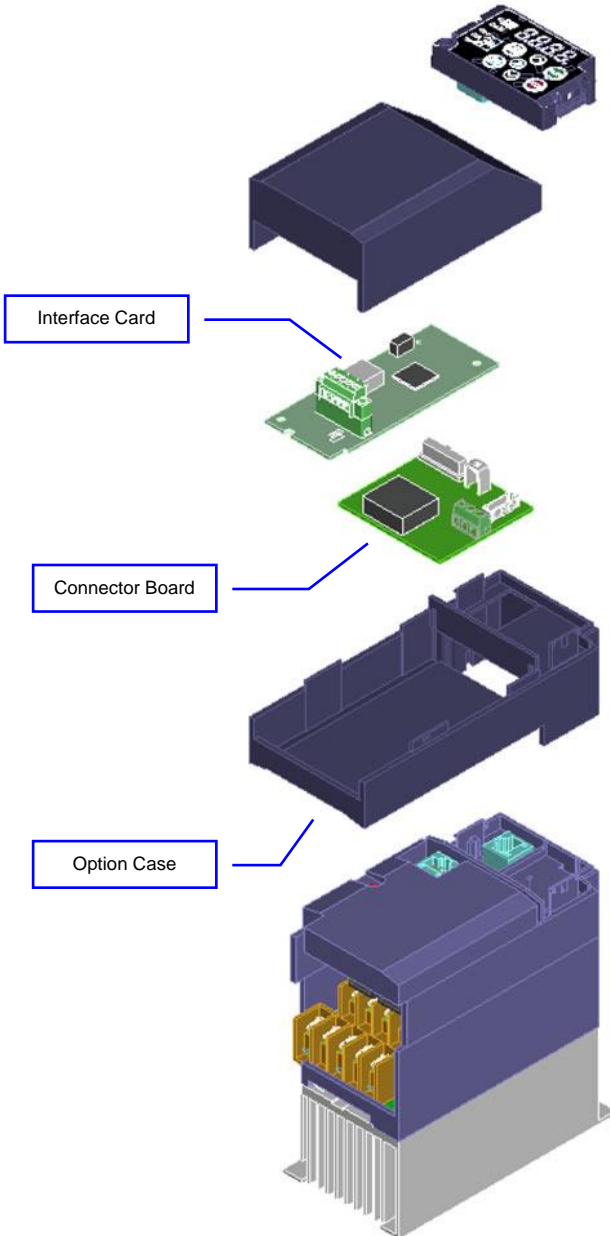
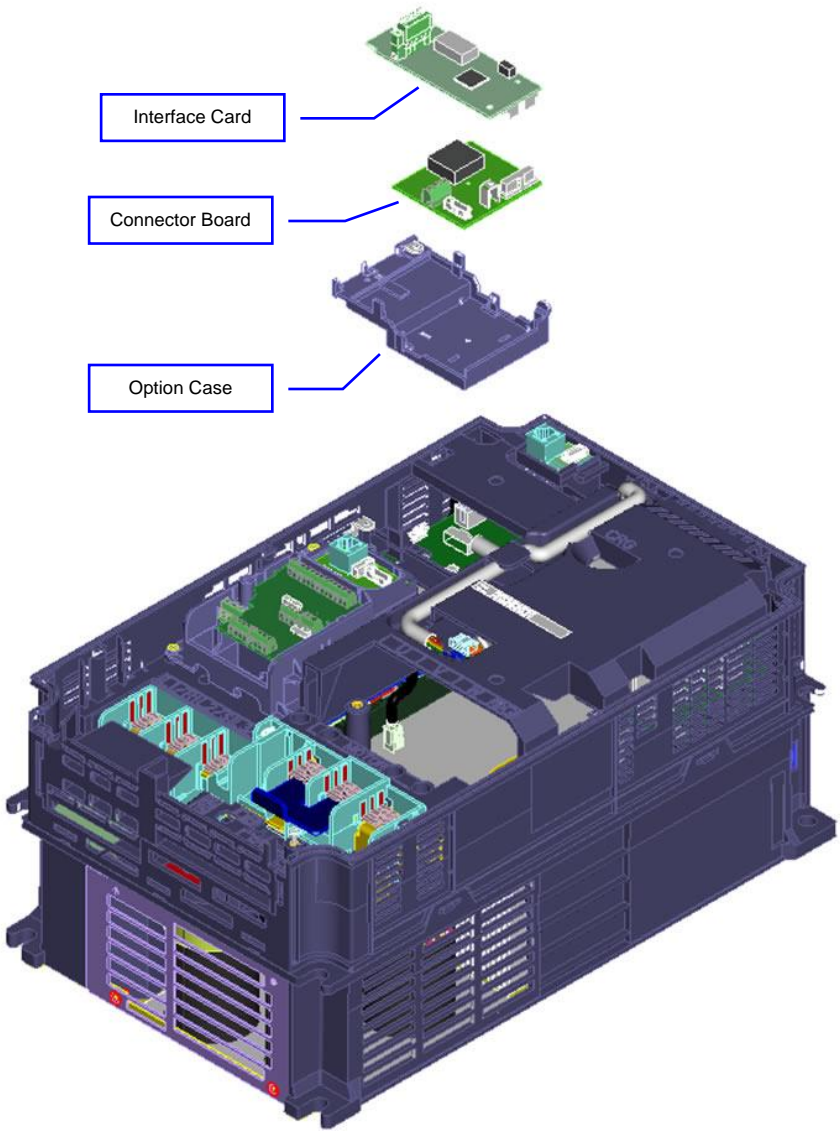
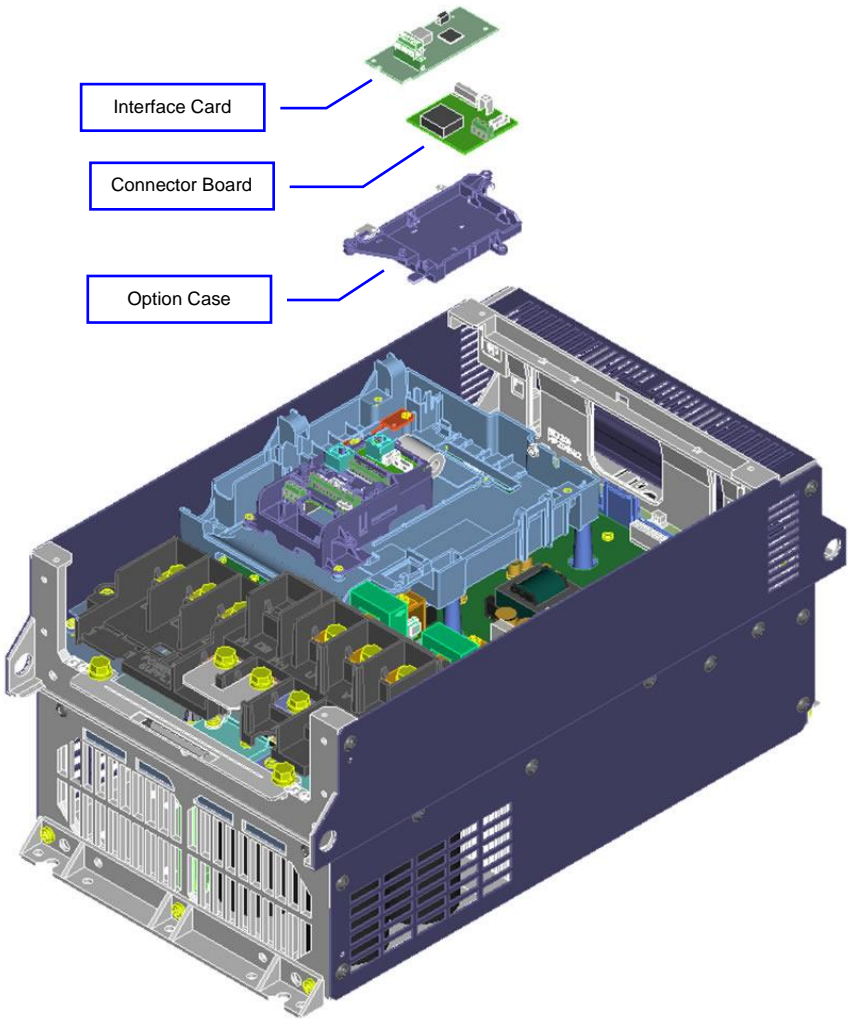

Figure 4: Installation for 15 kW and Smaller Inverters
Figure 5: Installation for 18.5 kW to 22 kW Inverters
Figure 6: Installation for 30 kW and Larger Inverters
Figure 4 provides an overview of the important interface card components.
1. Remove the front cover from the inverter to expose the control printed circuit board (control PCB). Install the interface card according to the inverter capacity as shown in Figure 4, Figure 5, or Figure 6. Otherwise, refer to the FRENIC-ACE Instruction Manual or contact Fuji for the appropriate installation instructions.